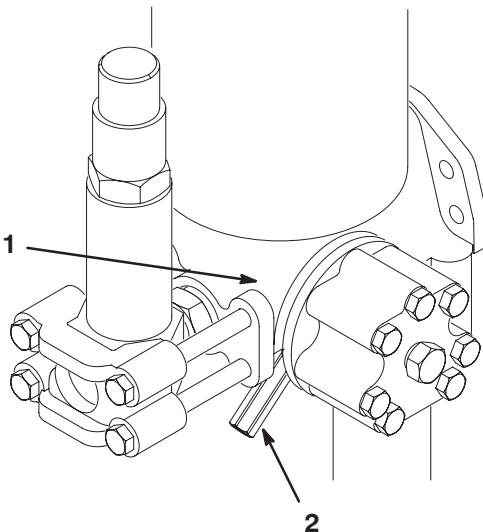

Figure 11
6. Reach under the hood and open the bleed valve on the main valve at the rear of the machine (Fig. 11). Bleed the system until a steady flow of water comes from the outlet; then close the valve.